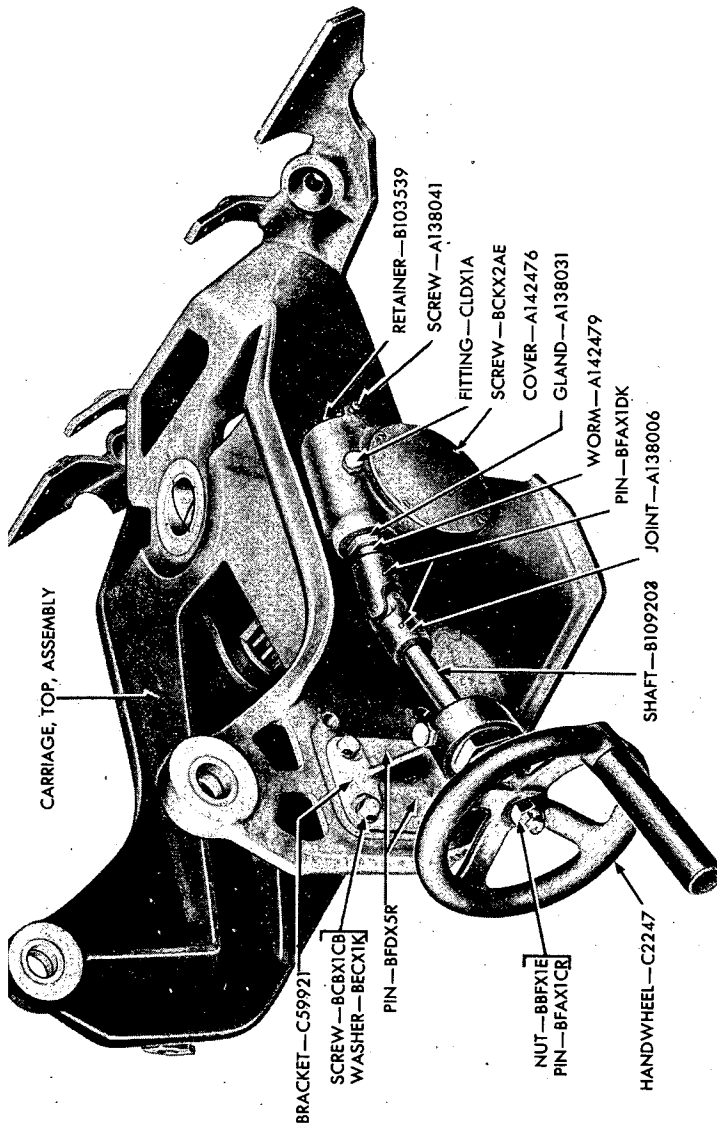
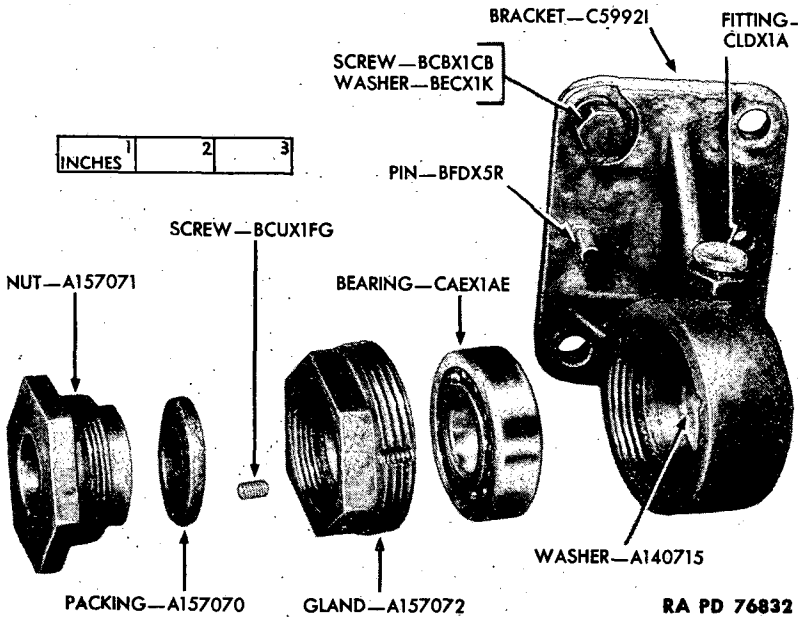

Figure 118—Top Carriage and Elevating Mechanism
Figure 120—Handwheel Shaft Bracket—Exploded View
(3) **DISASSEMBLY OF TRAVERSING HANDWHEEL SHAFT BRACKET** (fig. 120). There are two of these handwheel shaft bracket assemblies used on this carriage. One is on the traversing handwheel shaft and the other on the elevating handwheel shaft. The parts used in each are identical, with the exception of the brackets. One is a right-hand bracket and the other a left-hand bracket. Disassembly and assembly procedure is the same. This is covered in paragraph 39 b and d.
(1) The entire elevating mechanism, with the exception of the elevating arc, is assembled to the top carriage (fig. 118).
(a) Remove cotter pin from rear half of flexible joint (fig. 120). Then loosen handwheel shaft packing nut (fig. 120).
- (4) DISASSEMBLE ELEVATING HANDWHEEL SHAFT BRACKET (fig. 120).
- (5) REMOVE ELEVATING WORM.
- (a) Remove retainer lock screw A138041, and unscrew and remove retainer B103539 and bearing (fig. 118).
(a) Remove four screws BCKX2AE from gear case cover A142476 (fig. 118) and remove cover and gasket.
(c) Assemble the other ball bearing in place in the retainer B103539 (fig. 118).
(e) Screw the retainer and bearing into place in the front of housing. Adjust for proper end play of worm and worm wheel. Then lock with the lock screw A138041 (fig. 118). Screw the two screws into place in front of retainer.
(4) ASSEMBLE ELEVATING HANDWHEEL SHAFT BRACKET (fig. 120).
(5) INSTALL ELEVATING HANDWHEEL AND SHAFT (figs. 118 and 119).